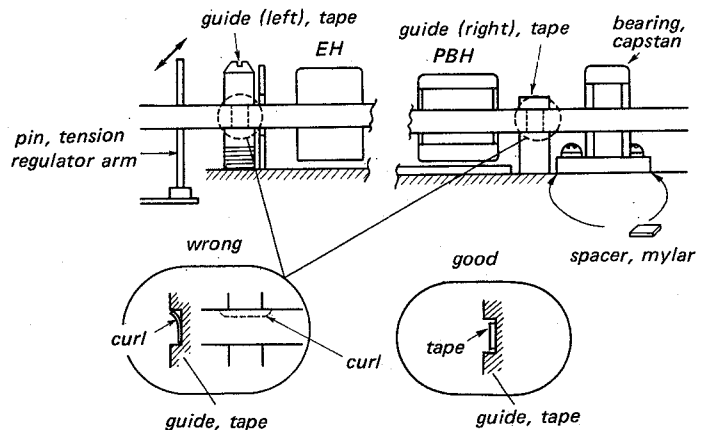

Fig. 9-6 Tape curl adjustment
- (1) Set the machine at 9.5 cm/s (3¾ ips) tape speed.
- (2) Be sure that the tape comes in contact with the two tape guides exactly as shown in Fig. 9-6.